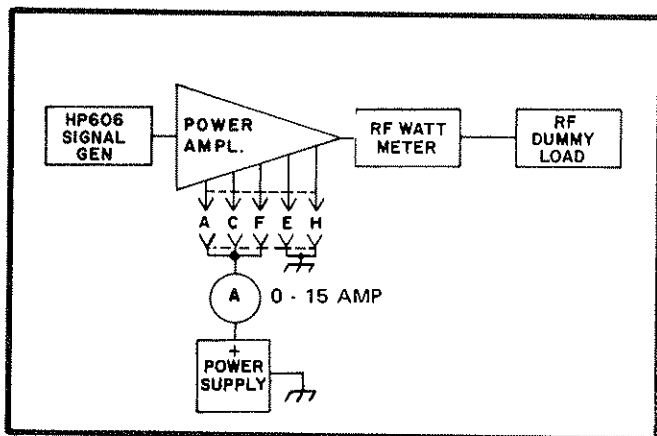

Figure 5.4 Power Amplifier Test Setup
5.8.4.2 For servicing the power amplifier, it is desirable to use an external power source capable of 28VDC at 12 amperes, continuously variable from 0 to 28 VDC. If such a power source is not available, the transceiver power supply can be used. A typical test set up is shown in Figure 5.4.
- 5.8.4.7 When transistor replacement is complete, test the power amplifier per test setup shown in figure 5.4. Apply D.C. power and slowly increase signal generator drive until 100 watts is shown on the wattmeter. The ammeter should indicate approximately 8.5 amperes. Allow the amplifier output to